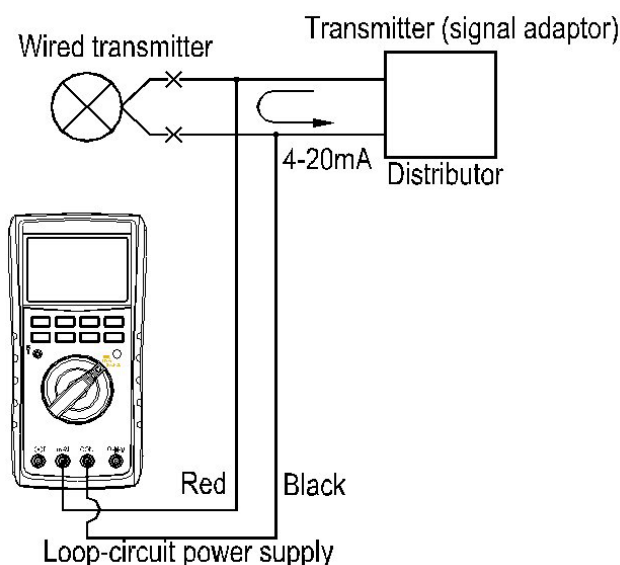

Figure 3-2 Current output in the SIMULATE mode
- Apply the voltage as shown in Figure 3-2.